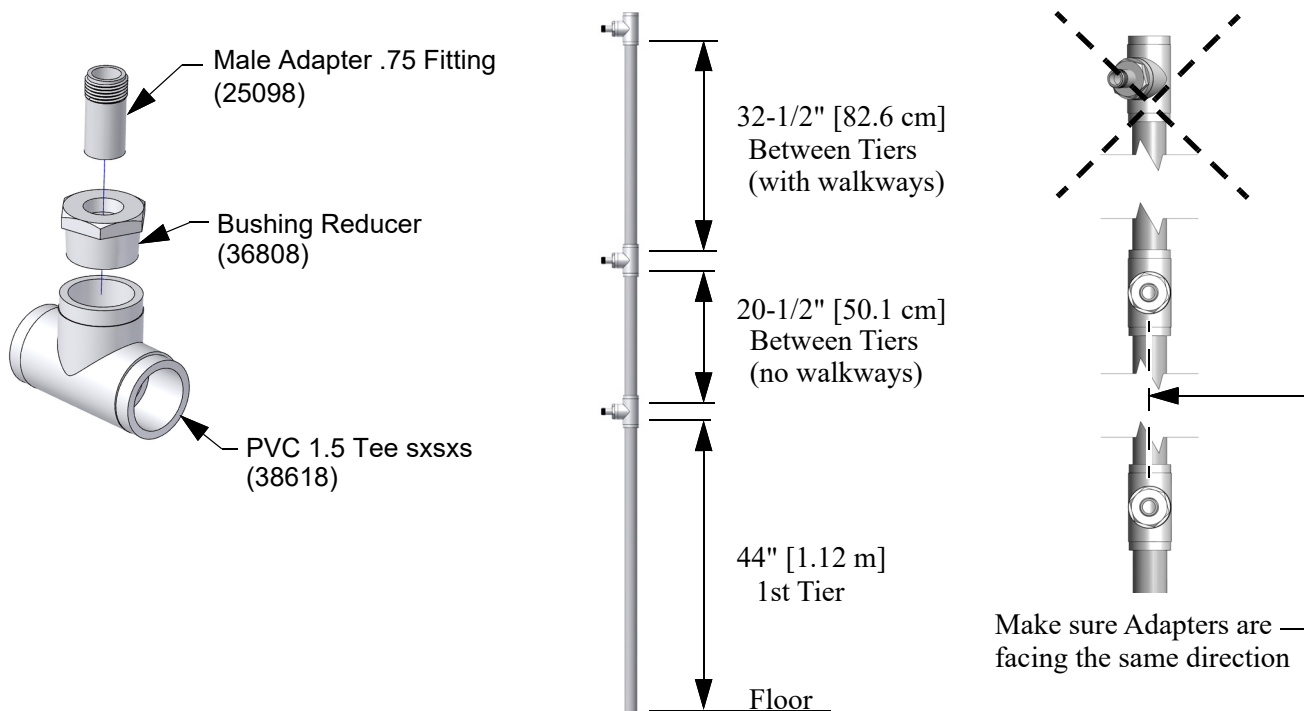

Figure 2. Drain and Overflow Assembly
1. Install the Tee (38618), Bushing Reducer (36808), and 3/4 Male Adapter (25098) (See Figure 2.)
4. Attach the PVC pipe segments into the PVC tee assemblies using a slip connection. (See Figure 2.)